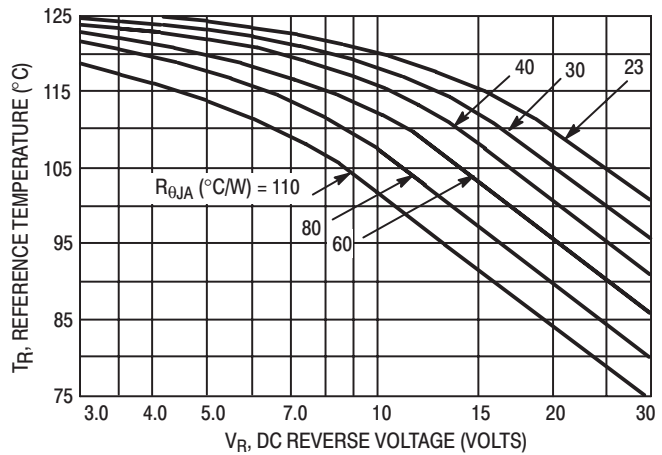

Figure 2. Maximum Reference Temperature 1N5818
- Step 2. Find  $T_R$  from Figure 2. Read  $T_R = 109^\circ\text{C}$